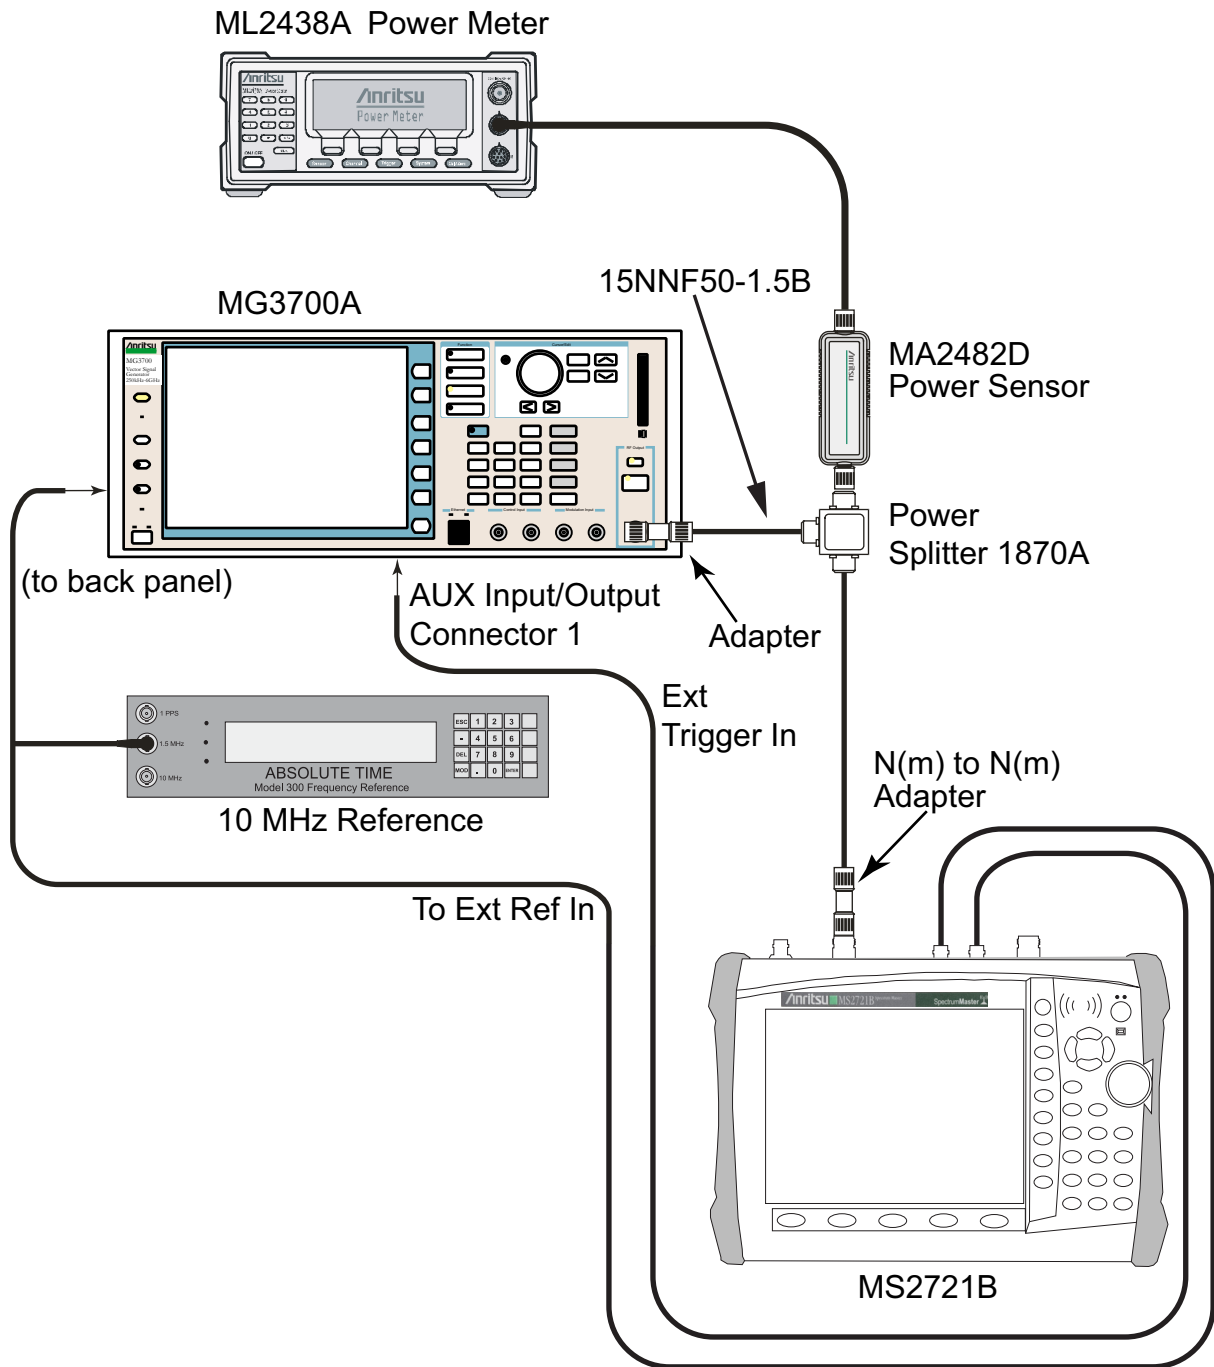

Figure 3-13. CDMA Signal Analyzer Test Setup
3. Connect the equipment as shown in Figure 3-13.